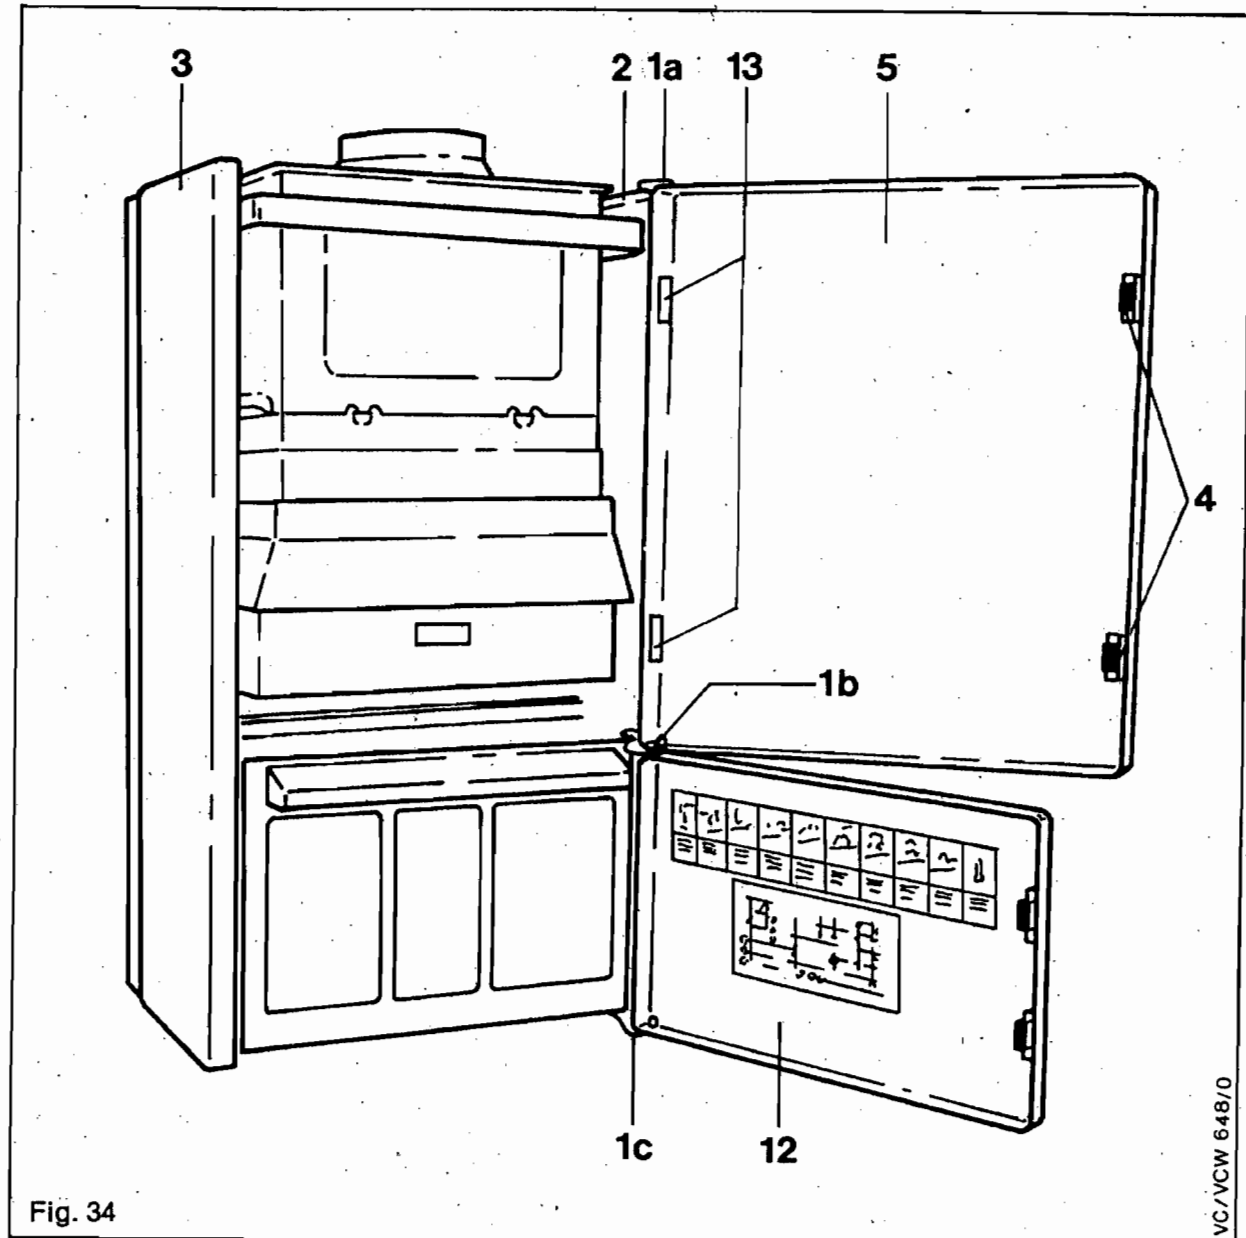

Fig. 34
The Vaillant boiler is pre-assembled in the factory for "doors hinged at the right" (see Fig. 34).
If the doors are required to be "hinged at the left", make the following changes (see Fig. 34).
- a) Unscrew door hinges top (1 a), centre (1 b) and bottom (1 c) from the right-hand side panel (2) and screw them the other way round to the left-hand side panel (3).
- b) Unscrew magnets (4) of the upper appliance door (5) and screw to the opposite magnet holders (13).
- c) For the installation of the appliance doors see next page. (12.5, Fig. 34).
to the inner side of the door as shown on Fig. 34.